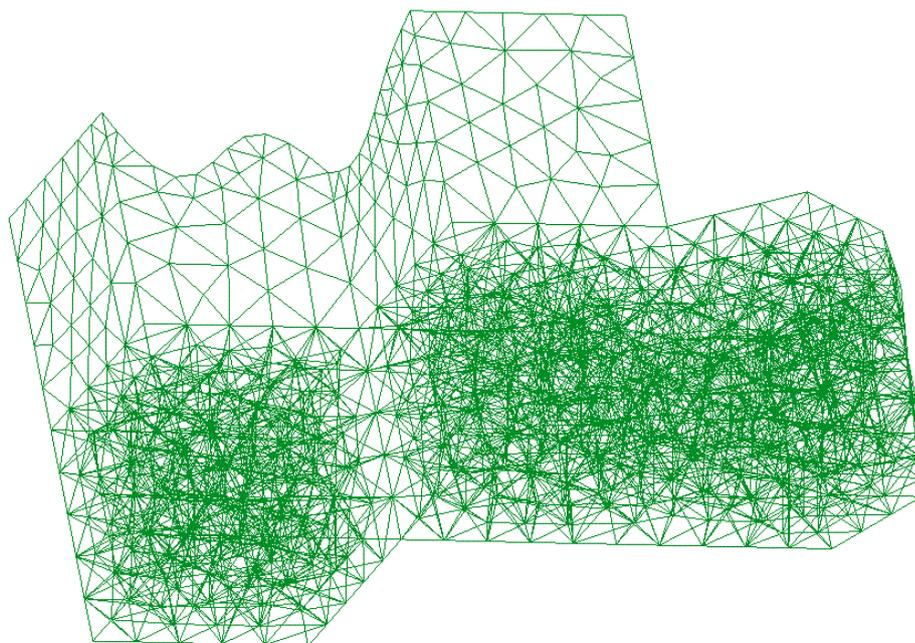

Figure 2. Generating the mesh by default.
- 4 . The result is the mesh in Figure 2. There are various surfaces and volumes. By default, mesh generation in GiD obtains unstructured meshes of triangles on surfaces and tetrahedra on volumes.